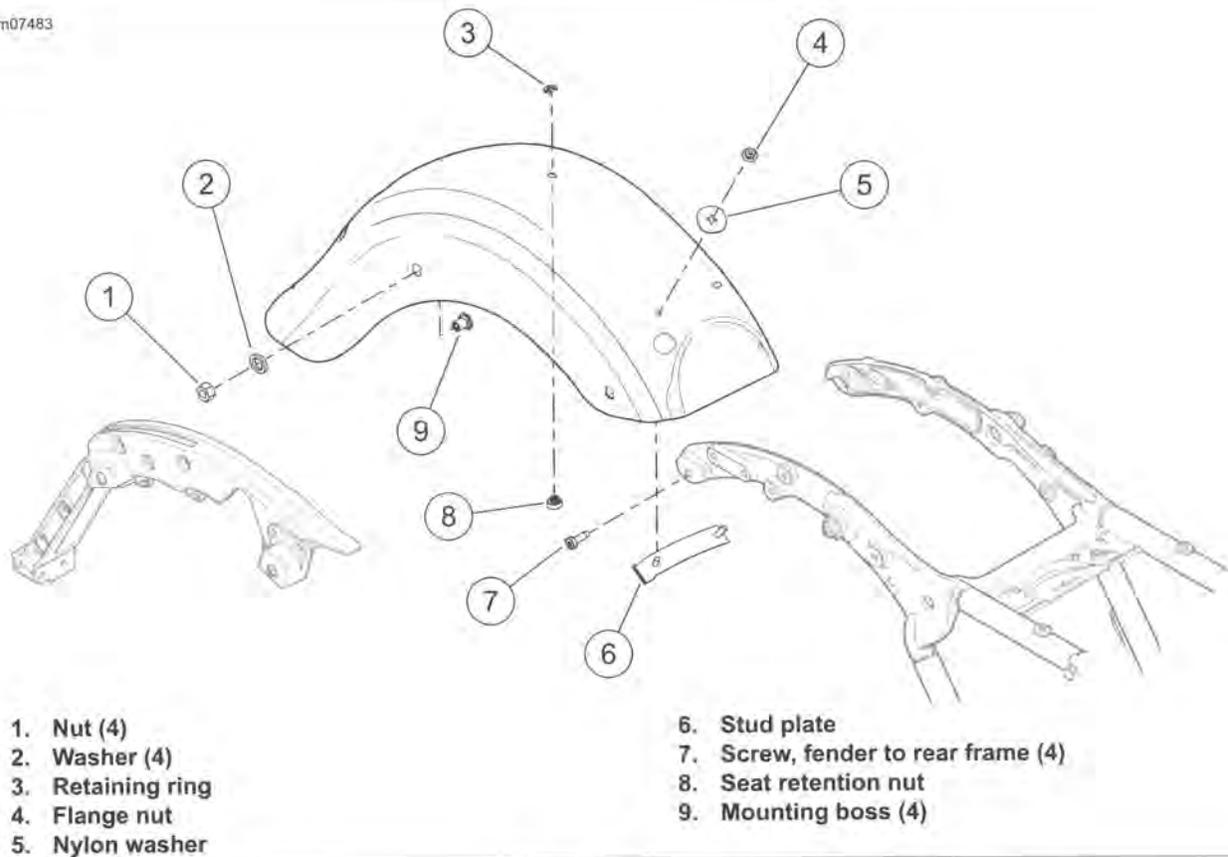

Figure 2-164. Rear Fender
7. See Figure 2-164. Remove fender mounting screws (7) from both sides. Fender will drop when screws are removed.
- See Figure 2-164. Remove nut (1), washer (2) and mounting boss (9).
- Install **new** components as necessary. Tighten nut (1) to 15-20 ft-lbs (20.3-27.1 Nm)
- See Figure 2-164. Remove flange nuts (4).
- Remove nylon washers (5) and stud plate (6).
- Install **new** components as necessary. Tighten nuts (4) to 60-96 in-lbs (6.8-10.8 Nm).
- See Figure 2-164. Install four fasteners (7). Tighten to 15-20 ft-lbs (20.3-27.1 Nm).